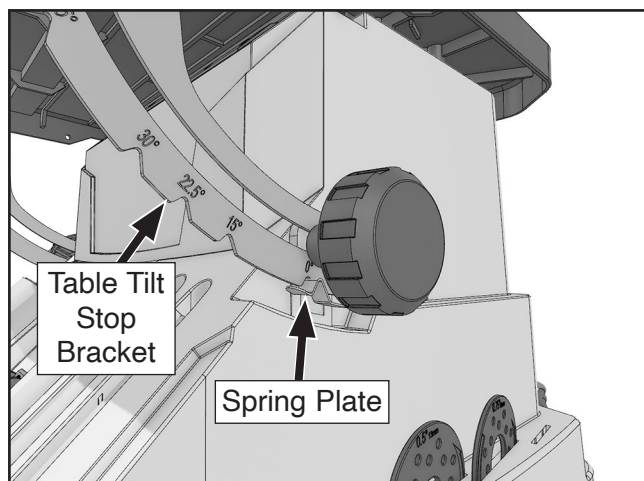

Figure 53. Spring plate engaging table tilt stop bracket at 0°.
6. Move spring plate so it fully engages 0° detent in table tilt stop bracket (see **Figure 53**), then tighten screws from **Step 4**.